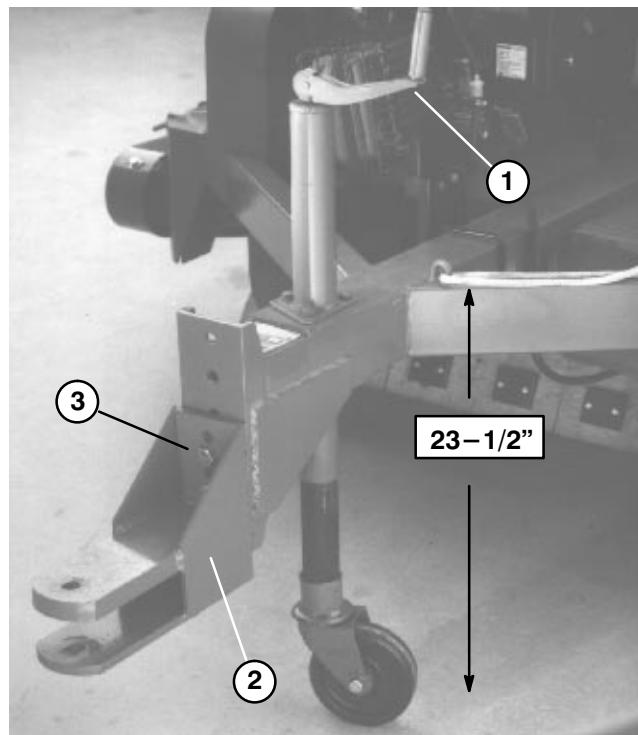

Figure 1
MOUNT SWEEPER TO PRIME MOVER (Fig. 1 & 2)
- A. Remove capscrews and locknuts securing hitch tongue to frame (Fig. 1).
- B. Raise or lower hitch tongue to position approximately level with prime move hitch and secure with (2) capscrews and locknuts.